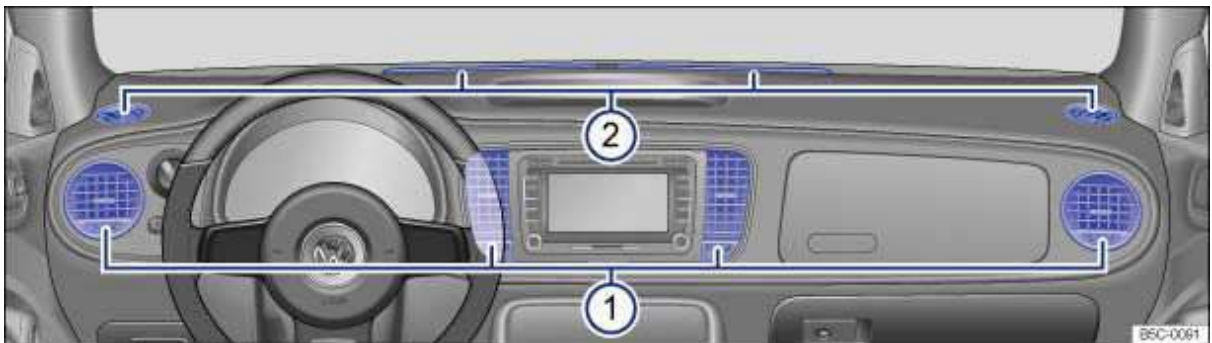

Fig. 110 In the instrument panel: Air vents.
To help ensure sufficient heating, cooling and ventilation in the passenger compartment, never close the air vents completely ⇒ fig. 110 (1).